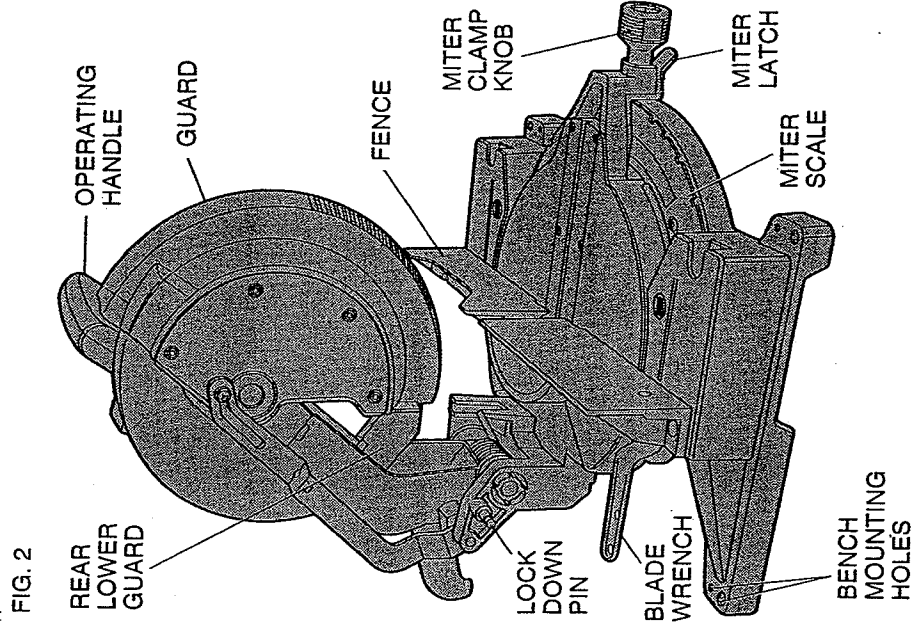

FIG. 2
2. One blade wrench in wrench pocket shown in Figure 2.
Examine Figures 2 & 3 to become familiar with the saw and its various parts. The following section on adjustments will refer to these terms and you must know what and where the parts are.
Holes are provided in all four feet to facilitate bench mounting, as shown in Figure 2. (Two different sized holes are provided to accommodate different sizes of screws. Use either hole, it is not necessary to use both.) Always mount your saw firmly to prevent movement. To enhance the tool's portability, it can be mounted to a piece of 1/2" or thicker plywood which can then be clamped to your work support or moved to other job sites and reclaimed.